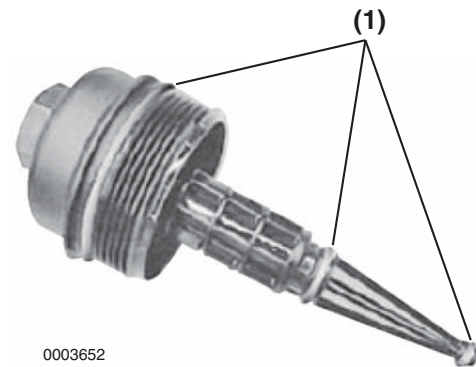

Figure 8-7
7. Replace the three O-rings (**Figure 8-7, (1)**) on the stem.